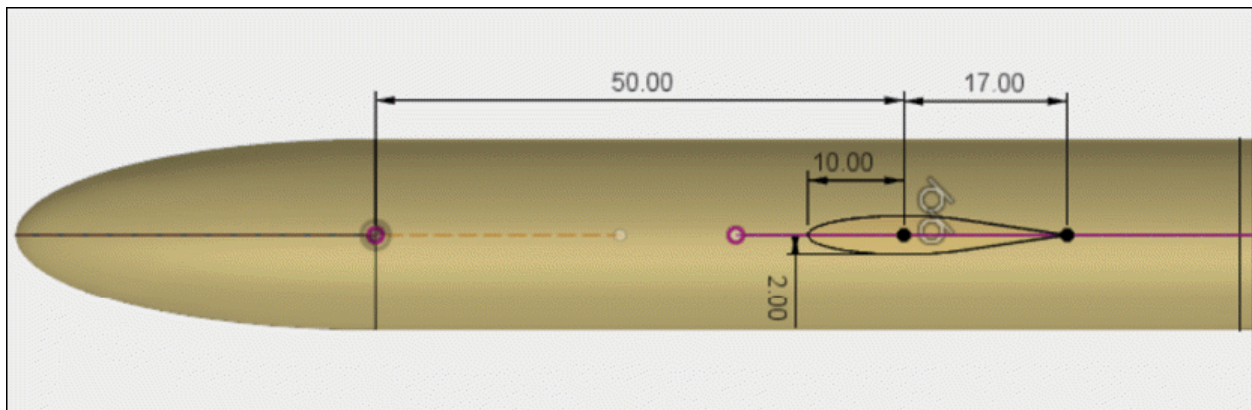

Figure-45. Sketch for wing
- Click on the **Create Sketch** tool and select the **XZ** plane as sketching plane. Create the sketch with the help of **Ellipse** and **Line** tool as shown in Figure-45.